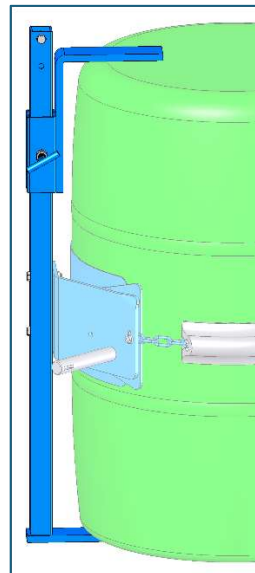

Figure 2.1
**Bracket Assembly Kit 4556-P is required** to handle a RIMLESS plastic drum (figure 2.1), and is also recommended for a fiber drum. The Bracket adjusts for a 31" to 39" (79 to 99 cm) tall drum. You can also handle a rimmed drum with the Bracket installed.